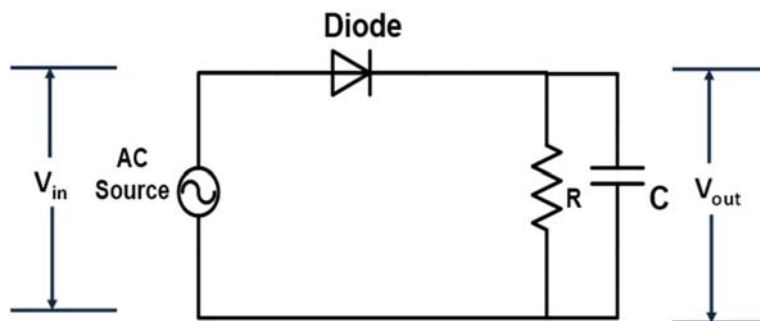

Fig. 2: Half wave rectifier circuit with a capacitor filter
5. Now connect the circuit given in fig. 2 (with a capacitor) and repeat steps 2 and 6.